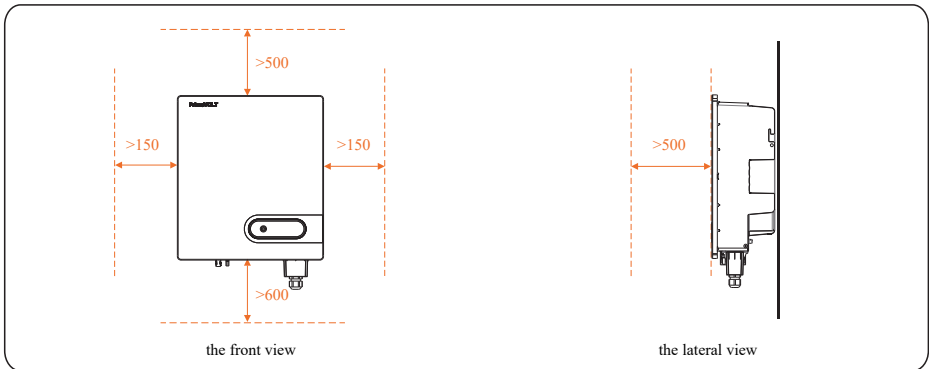

Figure4.3 Installation Space Requirements (unit: mm)
- b. Reserve enough clearance around the inverter to ensure sufficient space for installation and heat dissipation, as shown in Figure 4.3.